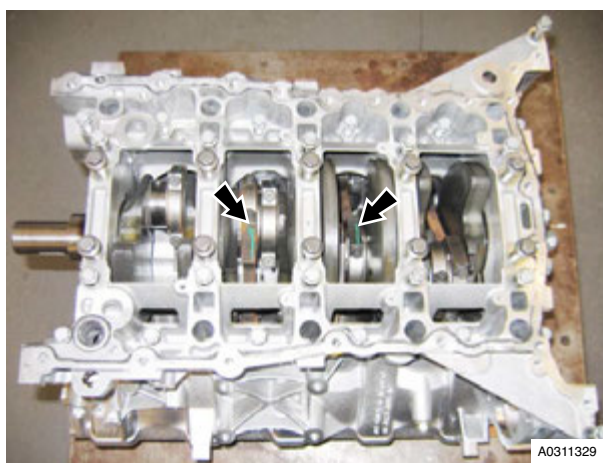

Figure 1
1. Mark bearing cap and connecting rod for correct installation (see Figure 1).